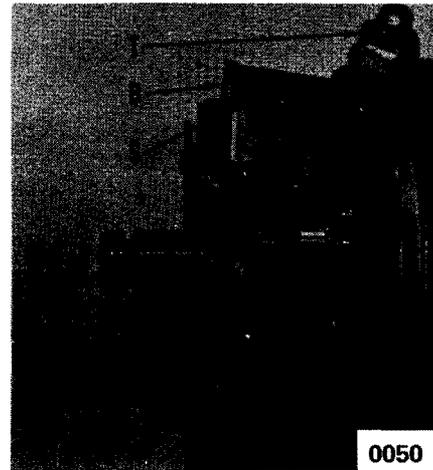

FIG. 35
Insert a thin-blade screwdriver in between brush-end cover and starter frame and carefully pry off the cover, making sure terminal post (T-Fig. 35) remains with starter frame. Pull back free end of springs (S) and lift the brushes